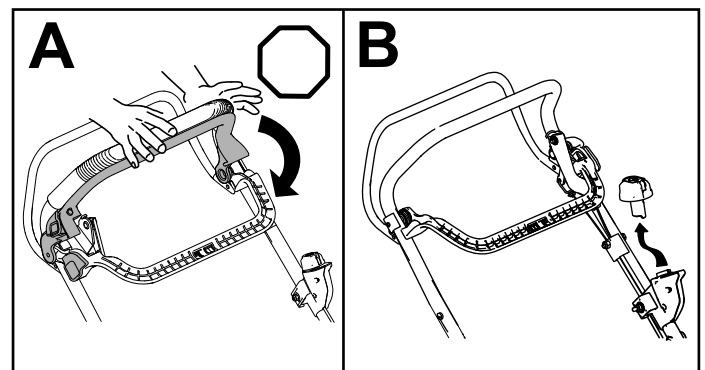

Figure 18
1. Release the blade-control bar (A of Figure 18).
2. Remove the electric-start button from the electric-start switch (B of Figure 18).